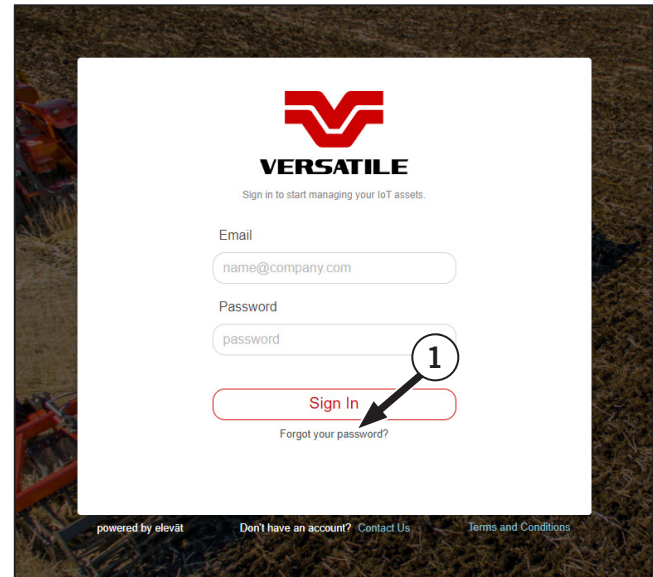

Figure 5-4 Forgot your password?
- Tractor search bar (2).
- User Settings (3).
- Help menu (4).
- Logout button (5).
- Group of tractors (clickable) (6).
- Single tractor (clickable) (7).
- List of tractors (8).
- Tractor list filter (9).
Clicking on the map icon (5), and then on the name of the tractor in the popup menu that appears will take you to the tractor dashboard (Figure 5-4) with